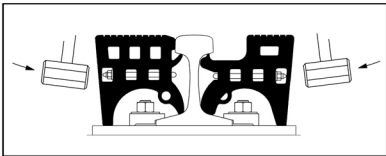

Figure 3
- 3 Seat rubber Interface into rail by hitting it with a sledge as shown (Fig. 3)